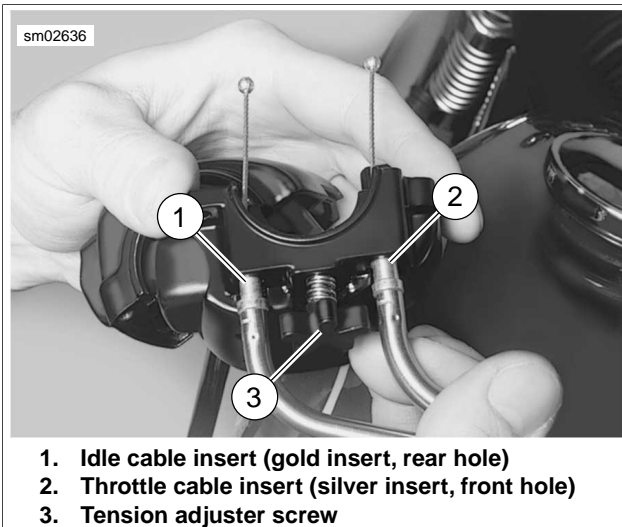

Figure 8-81. Right Lower Switch Housing
2. See Figure 8-81. Push the throttle and idle control cables into the lower switch housing until they snap in place. Note the different diameter inserts crimped into the end of the throttle and idle cable housings.
- a. Push the silver insert (2) of throttle cable housing into the hole in front of tension adjuster screw (3).
- b. Push the gold insert (1) of idle cable housing into the hole at the rear of tension adjuster screw (3).